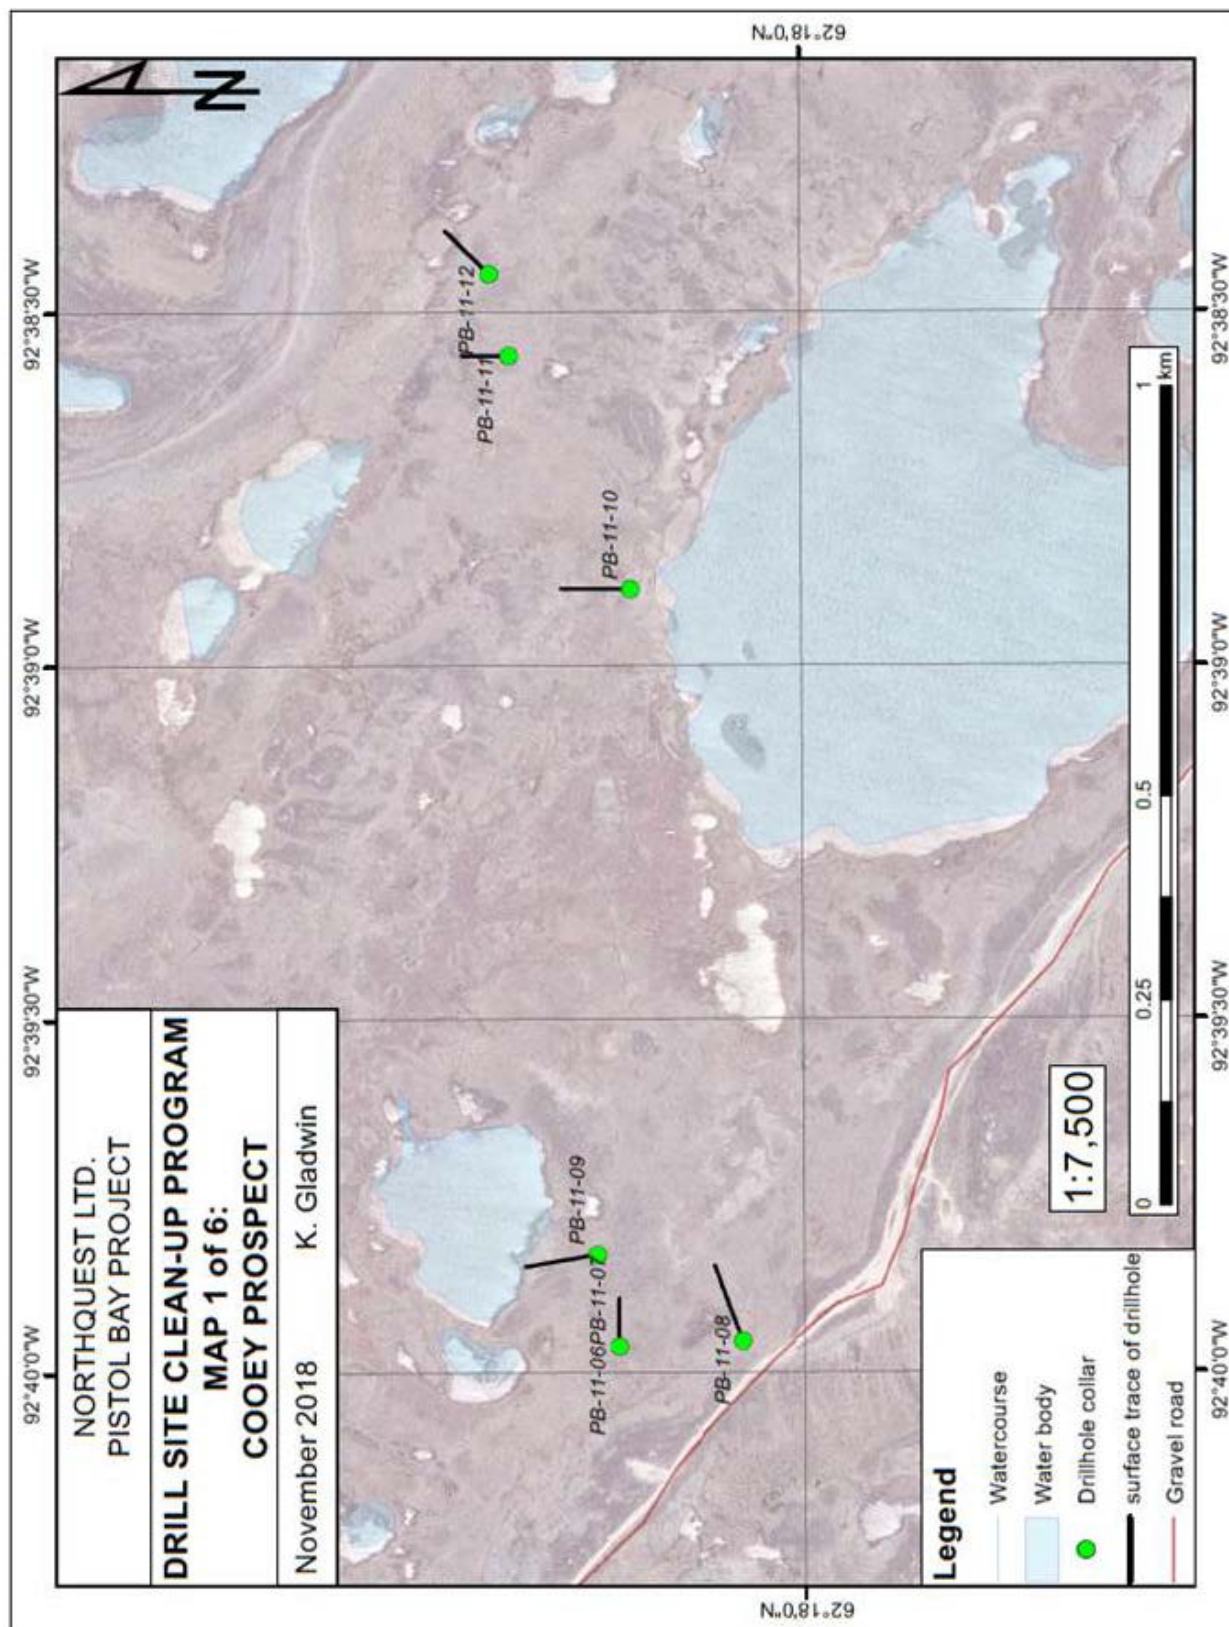

Figure 8. Map illustrating the Cooley Prospect drill sites.
- Figure 8. Map illustrating the Cooley Prospect drill sites.
| • Sako and Cooley      | Drill holes illustrated on Figures 8 and 9 respectively |